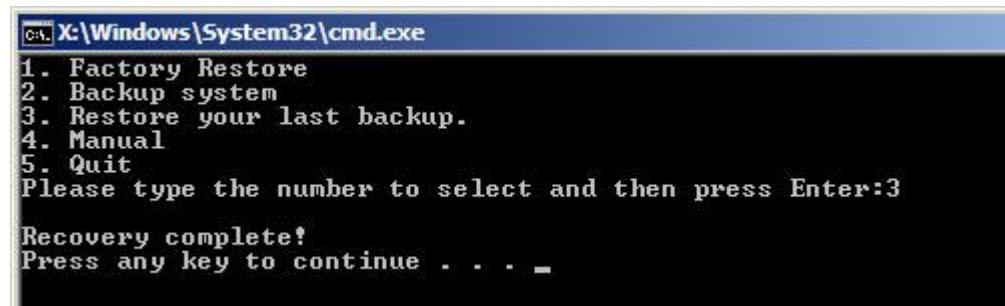

Figure B-29: Restore System Backup Complete Window
Step 3: The screen is shown as in **Figure B-29** when backup recovery is completed.